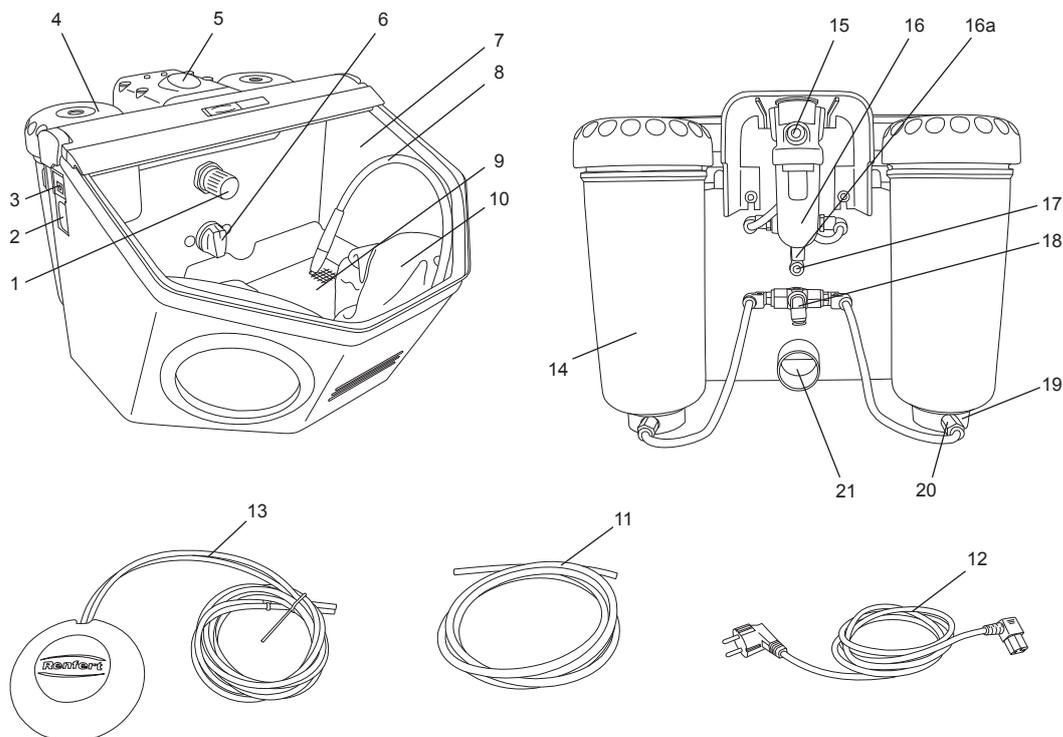

fig. 1
- Switch the illumination on (3).
- Select the blasting tank at the selection switch (6, fig.1).
- Activate the foot switch (13, fig.1).